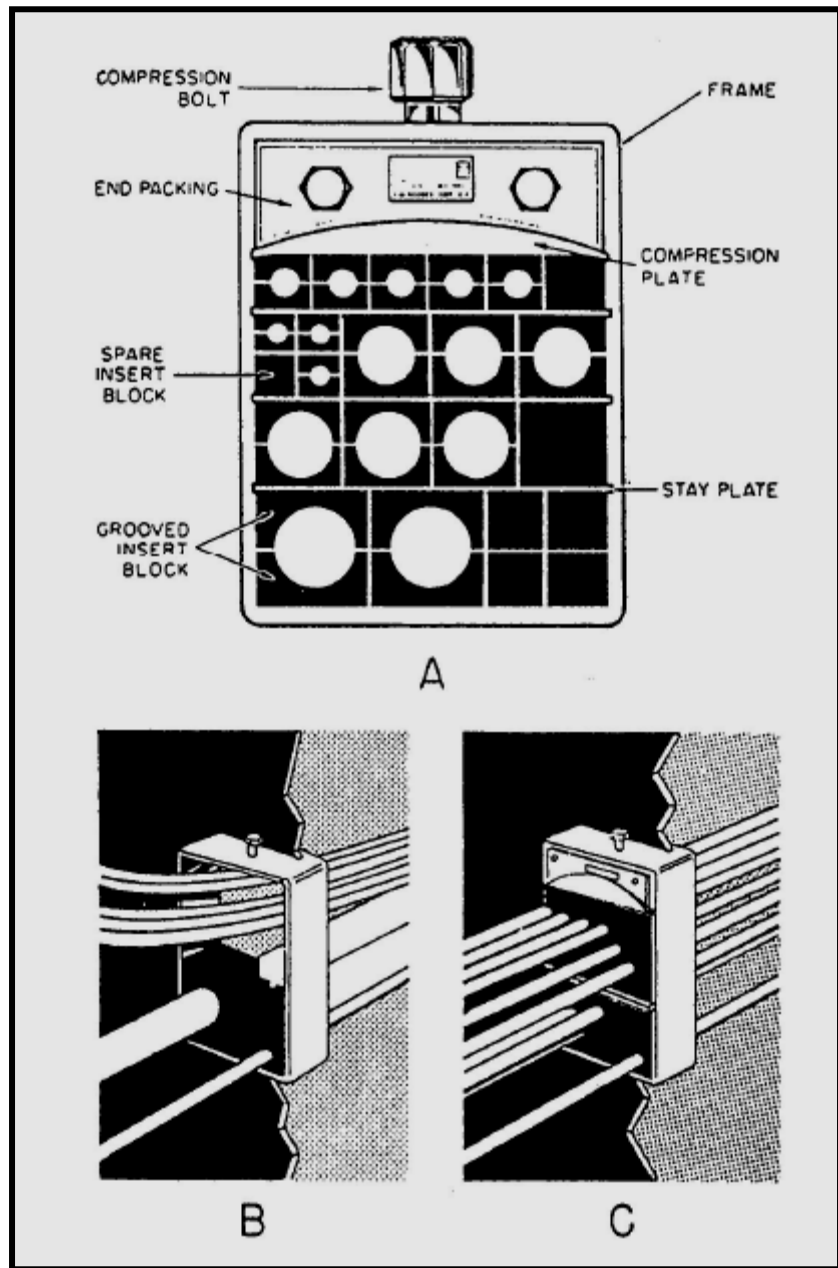

Figure 2-50.—Modular cable supports.
**MODULAR CABLE SUPPORTS.**— Modular cable supports (fig. 2-50) are installed on a number of naval ships. The modular method saves over 50 percent in cable-pulling time and labor. Groups of cables are now passed through wide opened frames instead of inserted individually in stuffing tubes. The frames are then welded into the metal bulkheads and decks for cable runs.